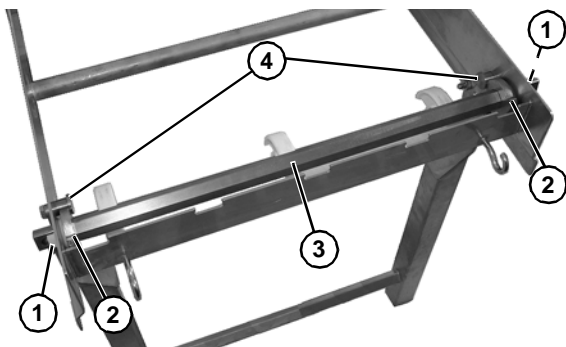

Figure 14
- Slide the tip up sleeves (**Figure 14, item 1**) and stop keys (**Figure 14, item 1**) outward on hex shaft assembly (**Figure 14, item 3**) until the sleeves seat in the holes of the frame and stop keys are seated against frame stops (**Figure 14, item 4**).